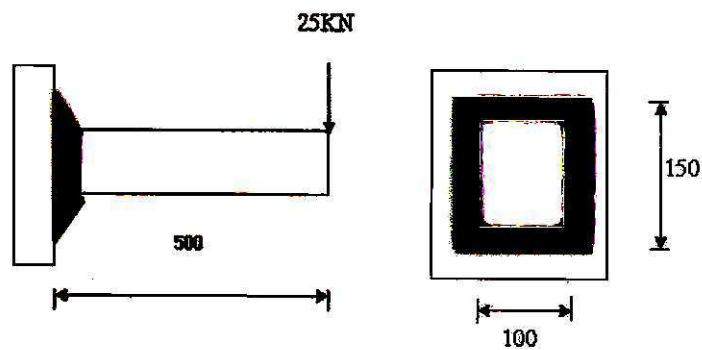

Fig. 3
- (c) A rectangular cross-section bar is welded to a support by means of fillet weld as shown in Fig. 3.